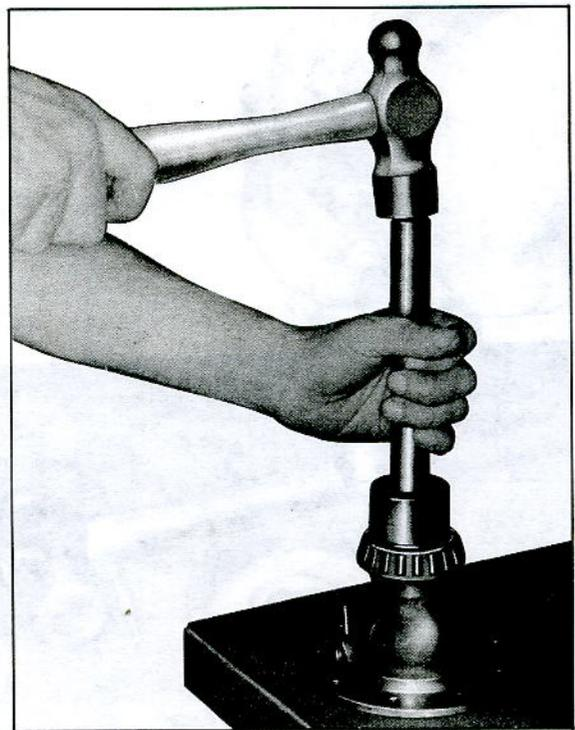

Fig. 31—Installing Differential Side Bearing with J-8359 and J-7079-2 Handle
1. If side bearings require replacement, install new side bearings with J-8359 (fig. 31), on case and/or cover.